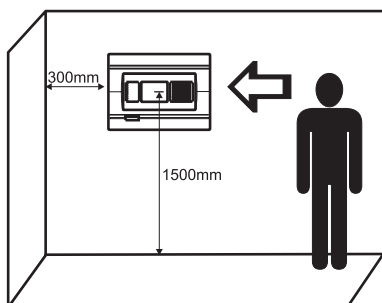

Figure 1
- The panel must be installed in a clean dry place and must not be subjected to impacts or vibrations (Figure 1). It must be situated far from heating appliances. The temperature must be within -5°C and $+40^{\circ}\text{C}$. The fire panel is not waterproof!